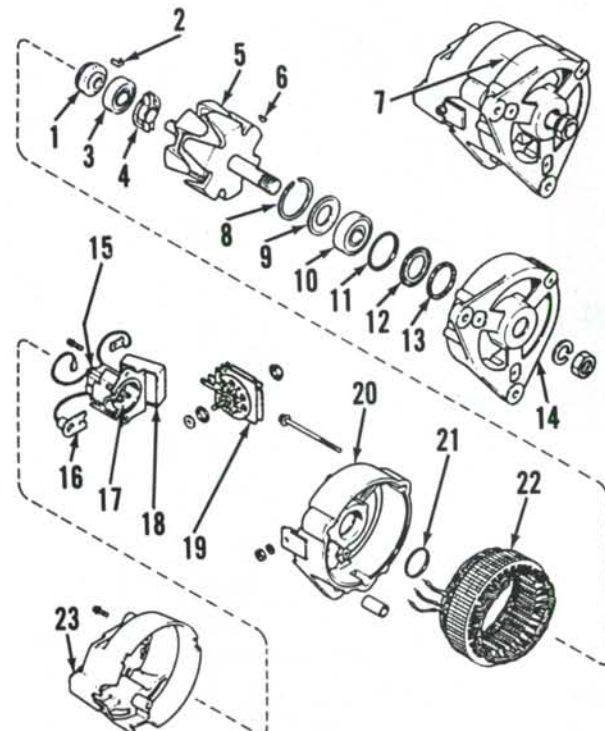

Fig. 128—Exploded view of standard-duty Lucas alternator showing component parts and their relative positions.
162. DISASSEMBLY. Scribe locating marks on alternator housings (7—Fig. 128), then remove end cover (23). Note location of stator leads and unsolder leads from rectifier (19). Use caution to not overheat diodes. Remove brush, regulator and rectifier assemblies. Remove retaining bolts and separate drive end housing (14) and rotor assembly (5) from rear housing (20) and stator assembly (22). Remove drive pulley, fan and shaft key, then press rotor and shaft (5) out of drive end housing (14) and front bearing (10). Remove snap ring (8), plate (9), bearing (10), pressure ring (11), plate (12) and felt seal (13). Unsolder field winding connections and remove slip ring (1) if rear bearing (3) or seal (4) are to be renewed. Press off rear bearing (3). Separate stator assembly (22) from rear housing (20).